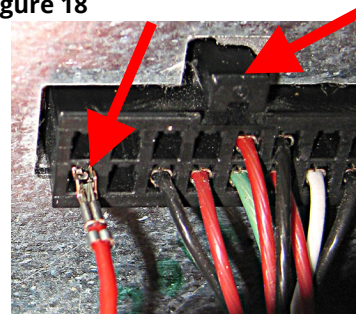

Figure 20
25. Locate the 16-pin connector on the rear of the MIB board. Insert the **RED** wire into the far lower left position (pin 8) (see Figure 20). Ensure the two tabs fit properly into notches towards the top of connector.